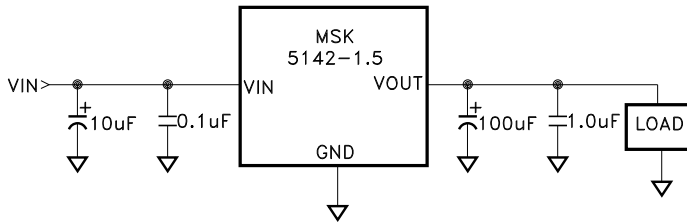

FIGURE 1
- ① The output is decoupled to ground using a 100μF low ESR tantalum capacitor in parallel with a 1μF ceramic capacitor. See figure 1 for typical circuit.
- ② Guaranteed by design but not tested. Typical parameters are representative of actual device performance but are for reference only.
- ③ Industrial grade devices shall be tested to subgroups 1 unless otherwise requested.
- ④ Military grade devices ("H" suffix) shall be 100% tested to subgroups 1,2 and 3.
- ⑤ Subgroup 1 TA = +25°C